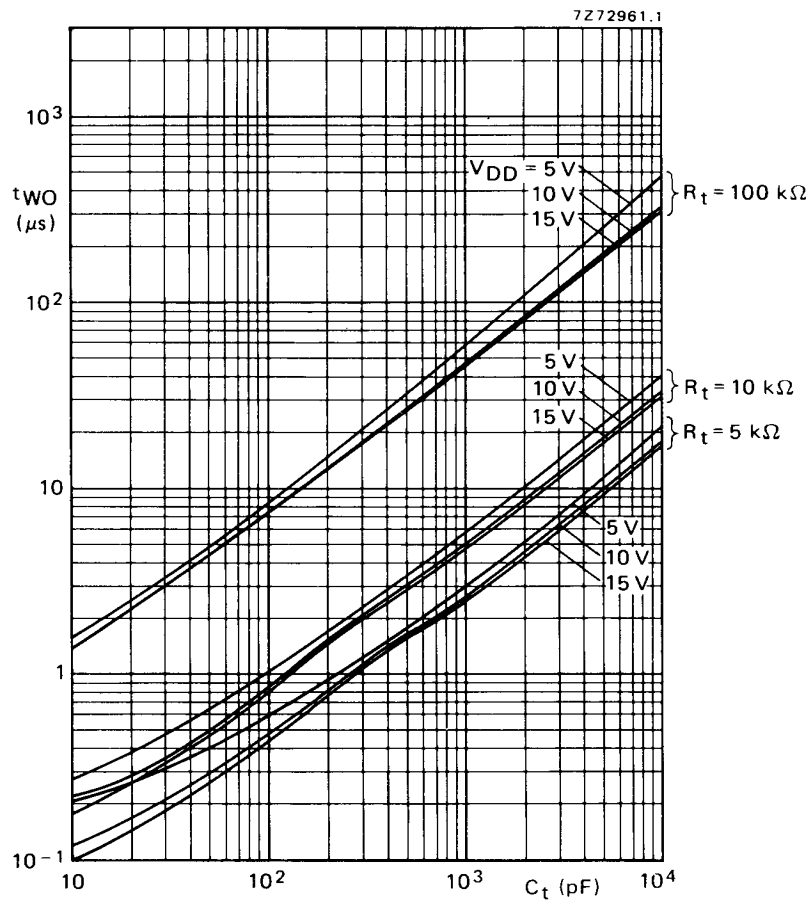

Fig. 4 Output pulse width (t_{WO}) as a function of external timing capacitor (C_t).
- $R_t = 5\text{ k}\Omega$; $C_t = 15\text{ pF}$; for other R_t , C_t combinations and $C_t < 0,01\text{ }\mu\text{F}$ see graph Fig. 4.